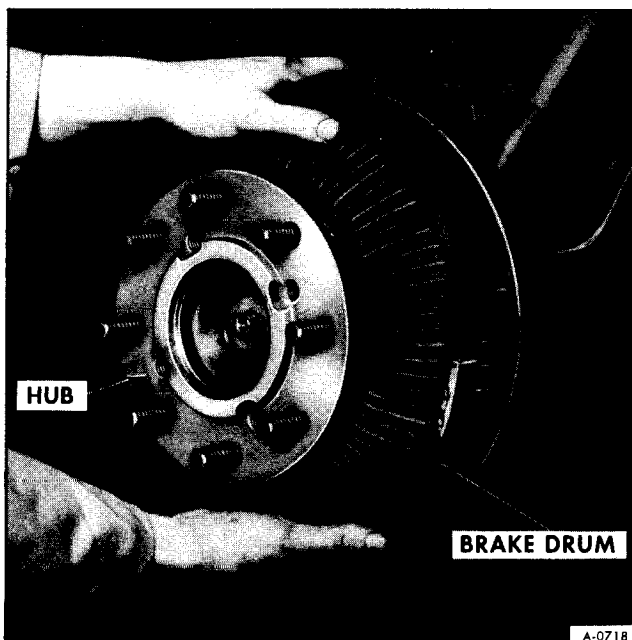

Figure 10—Removing Hub and Drum
5. Hub and drum assembly can now be removed. See Figure 10.